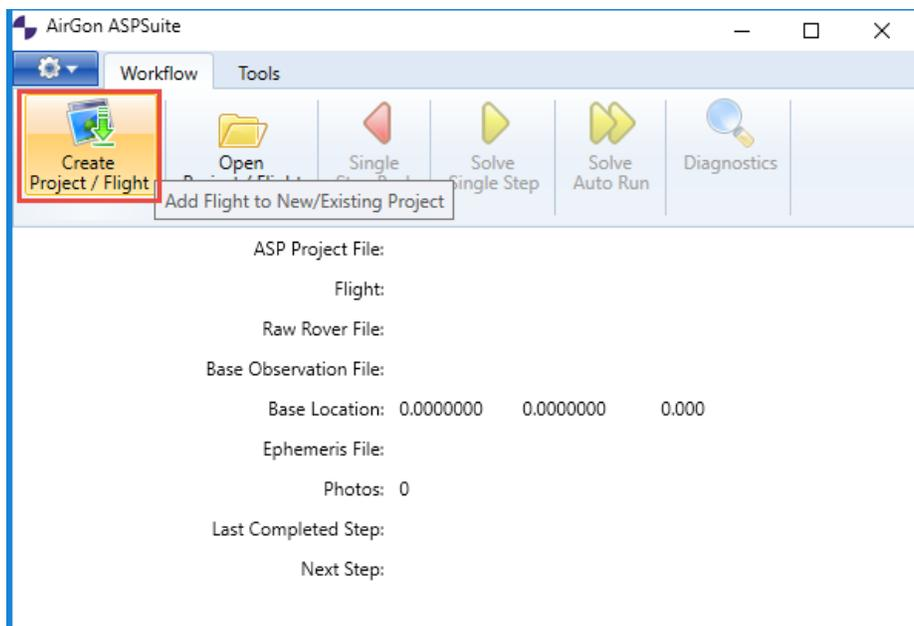

Figure 4- Create Project/ Flight
1. The first step in the workflow is to import data from the aircraft in the field, and check the quality. Start by powering on the aircraft (and the Loki controller if it doesn't power on automatically). The Loki device will turn on automatically when it is used with a DJI drone. In the case where a "hot shoe" device is utilized, the Loki device will need to be manually powered on by pressing the green button for two seconds. The hot shoe device is made to connect directly to a DSLR camera, read the camera signal, and record the photo(s) position. Connect a USB cable from your computer to the Loki controller. Your aircraft should have come with a USB cable to download photos. Connect this cable from your computer to the aircraft. When both devices are connected, Open ASPSuite and select *Create Project/ Flight* (Figure 4).